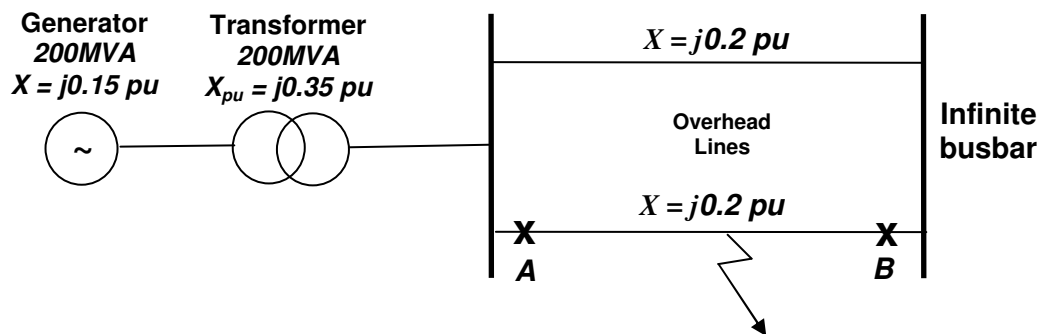

Figure B1.1 Generator and transmission system.
- a. What is meant by a synchronous machine “losing synchronisation”. Explain why this is undesirable. (2)
- b. A 200MVA generator is connected to an infinite busbar via a transformer and a pair of identical overhead transmission lines, each having negligible resistance and a reactance of $j0.2$ pu as shown in Figure B1.1. The generator voltage is 1.1 pu and the voltage of the infinite busbar is 1.0 pu.